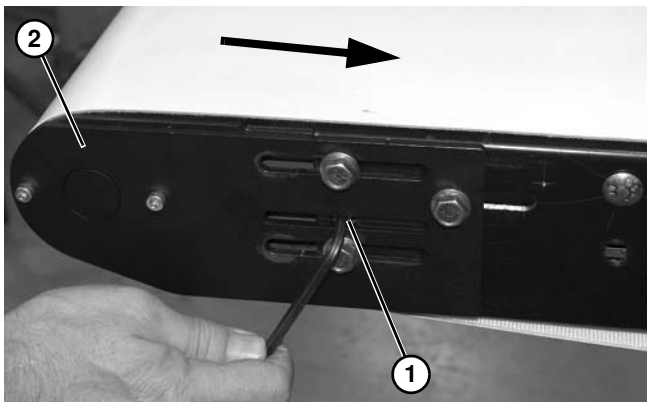

Figure 100
2. Loosen the tensioner screw (Figure 100, item 1) on each side of conveyor to move the tension head plate assembly (Figure 100, item 2) inward and fully release tension on belt.